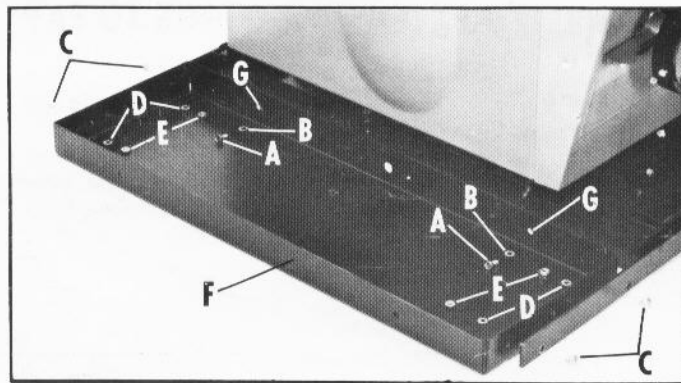

Fig. 10
6. Refer to Fig. 10 and 10A for the following instructions on assembling the extension wings to the saw. Place the extension wings (F) upside down and in position on each side of the saw table. Fasten each wing to the table using two internal tooth lockwashers (B) and two hex head sheet metal screws (A) in the two outside holes (G) of the wing and the two holes in the table flange. Then fasten each wing to the two wing support bars using four #10 x 3/8" round head screws (C), external tooth lockwashers (D) and #10 hex nuts (E).